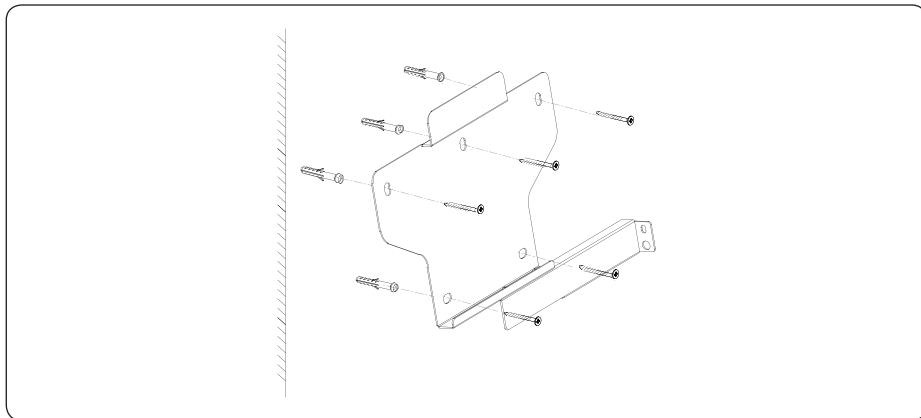

Figure 4-7 Fixing the wall bracket
4) Insert the expansion tubes into the holes and tighten them, then fix the bracket onto the wall with expansion screws by using a cross screwdriver, as shown in Figure 4-7. Please also include how to install the locking plate to the mounting bracket: